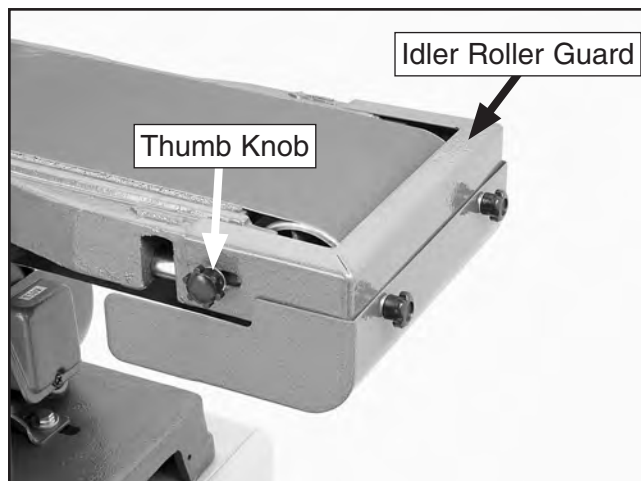

Figure 39. Idler roller guard installed.
22. Loosen the thumb knobs behind the idler roller, and install the idler roller assembly (**Figure 39**).